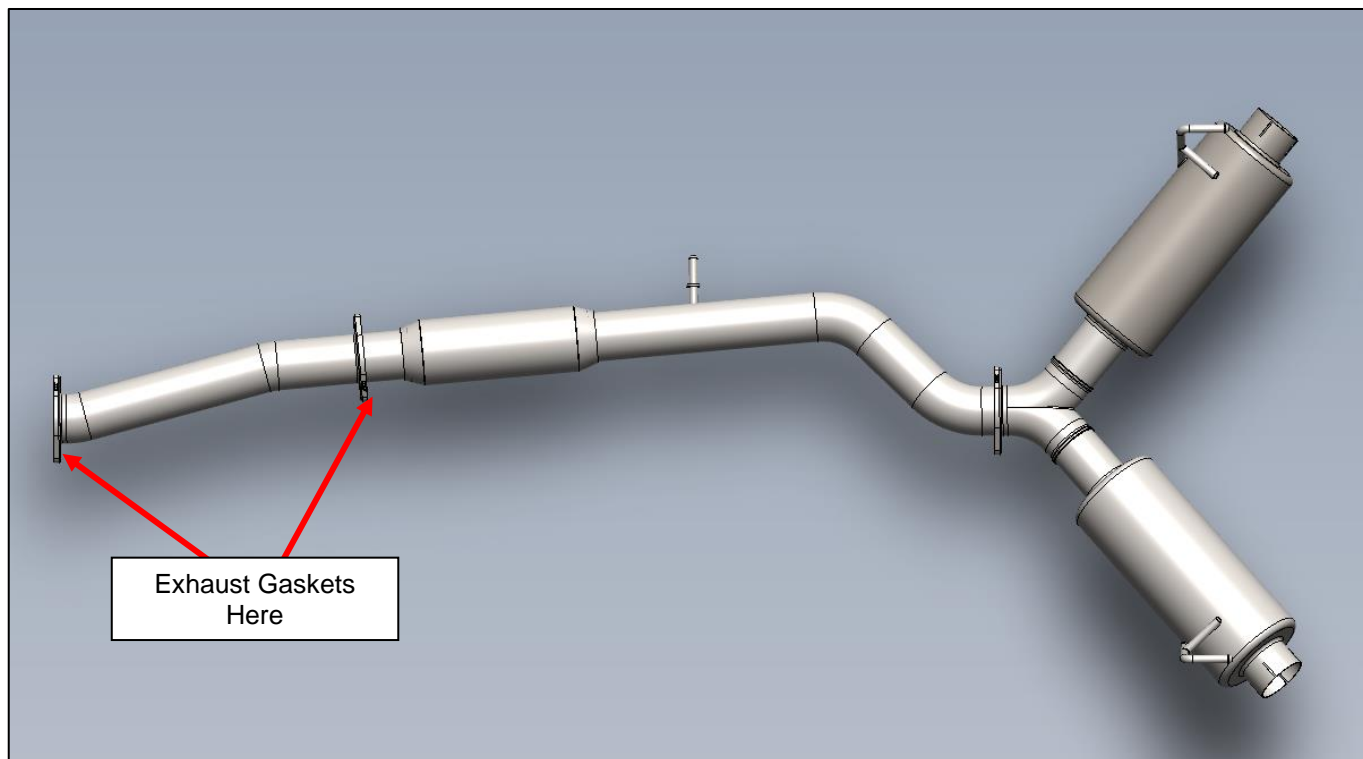

Figure 6
9. Locate the Mid-Pipe, (2) two Exhaust Gaskets, (4) four M10 Bolts and (4) four M10 Nuts. Join the Mid-Pipe to the Y-Pipe and Resonated Mid-Pipe with an Exhaust Gasket in between each flange. Secure with the M10 Hardware *Figure 6*.